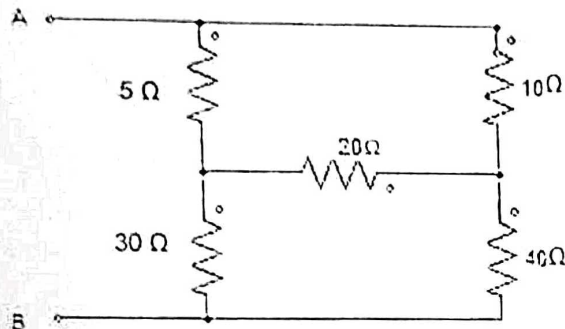

Fig. 1(b)
- b) Calculate the equivalent resistance of the network shown in Fig. 1(b) as measured across the terminals A and B.